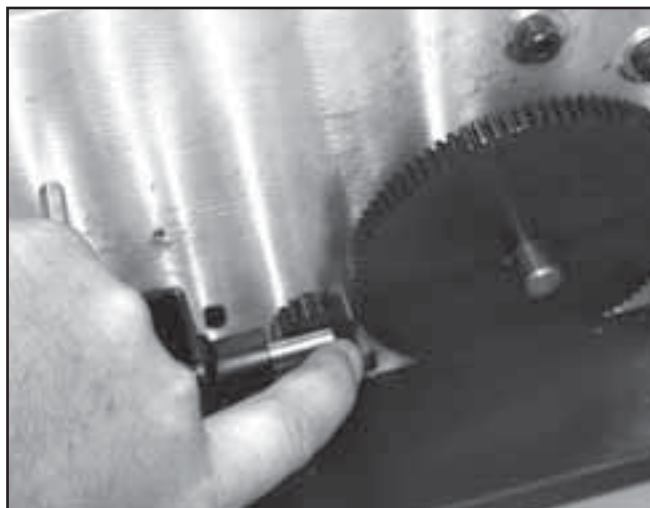

FIGURE 5.12
- b. Manually move solenoid shaft in and out to ensure gears are not locked and the Solenoid Shaft moves and properly engages the large Driven Gear. See Figure 5.12. If Solenoid moves and engages properly, proceed to step c. below.